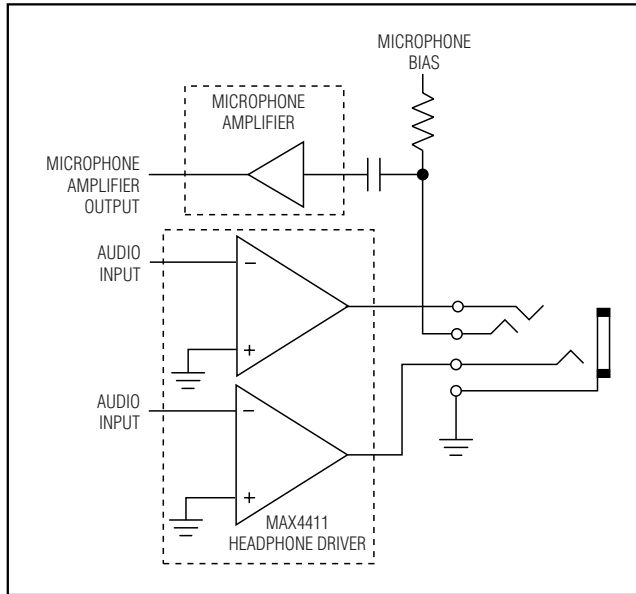

Figure 2. Earbud Speaker/Microphone Combination Headset Configuration
- 4) When using a combination microphone and speaker headset, the microphone typically requires a GND reference. The driver DC bias on the sleeve conflicts with the microphone requirements (Figure 2).